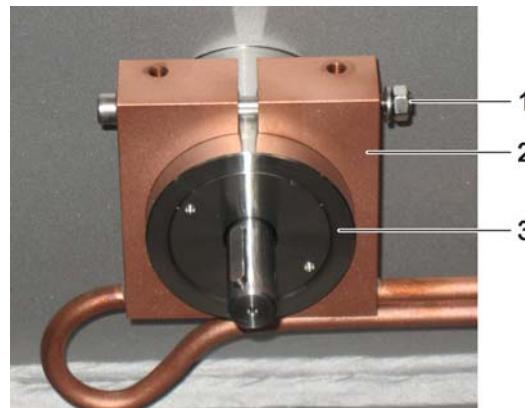

Fig. 8-11 Cooling cuff
- 18 1. person: In the vacuum chamber, hold the cooling cuff (2 in Fig. 8-11, 260)
- 22 In the vacuum chamber, mount the cooling cuff on the rotary feedthrough, see Fig. 8-11, 260.